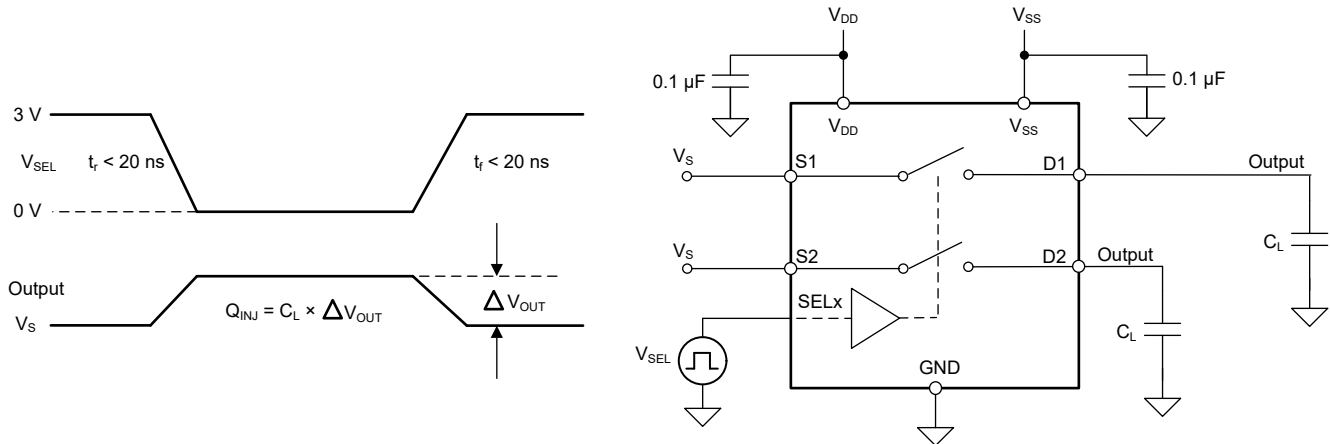

图 7-7. Charge-Injection Measurement Setup
The TMUX622x has a transmission-gate topology. Any mismatch in capacitance between the NMOS and PMOS transistors results in a charge injected into the drain or source during the falling or rising edge of the gate signal. The amount of charge injected into the source or drain of the device is known as charge injection, and is denoted by the symbol Q_C . 图 7-7 shows the setup used to measure charge injection from source (Sx) to drain (D).